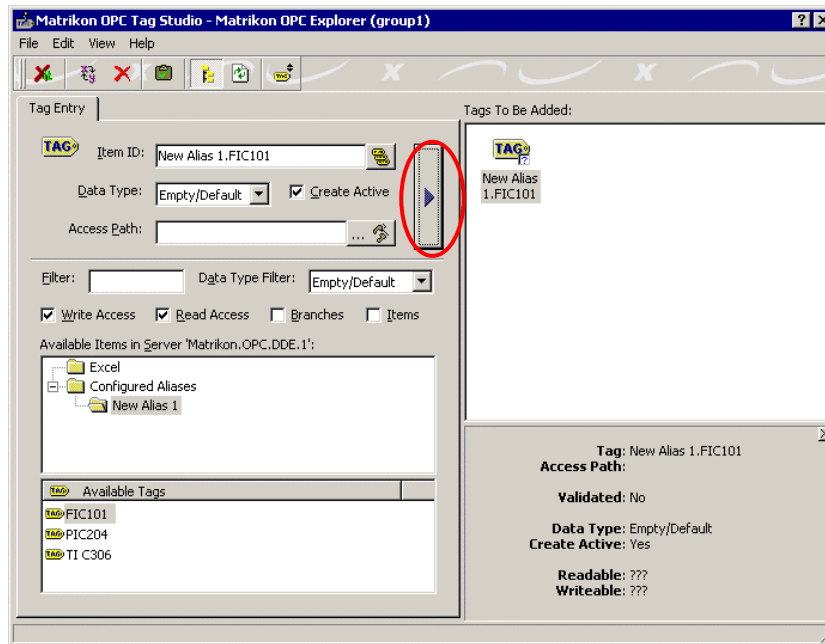

Figure 4-10. The tag is transferred to the **Tags To Be Added** list.
5. Click  to transfer the tag name to the **Tags To Be Added** list (Figure 4-10).